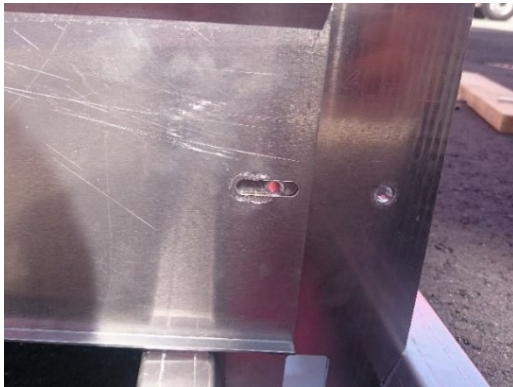

Figure 29 – Align shield with mounting holes
- 5 Secure PV modules beginning at the start of a row. Clamps at module edges require End Blocks, OR KB Konnect End Clamps. Click Clamps into slots on the Support and use a 5mm Allen key to secure the Clamp (Figure 27 to Figure 29).